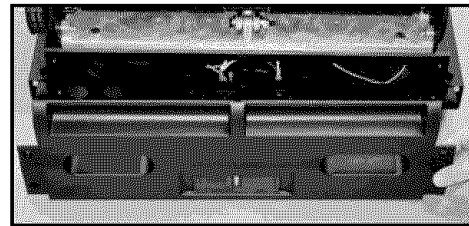
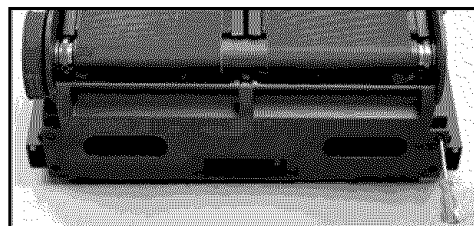

Figure 13-1
Figure 13-2
13-1 Using the provided #2 Phillips screwdriver, mount the rear cover to the back of frame (see Figure 13-1) using (4) #10 Phillips head screws (2 per side—see Figure 13-2).